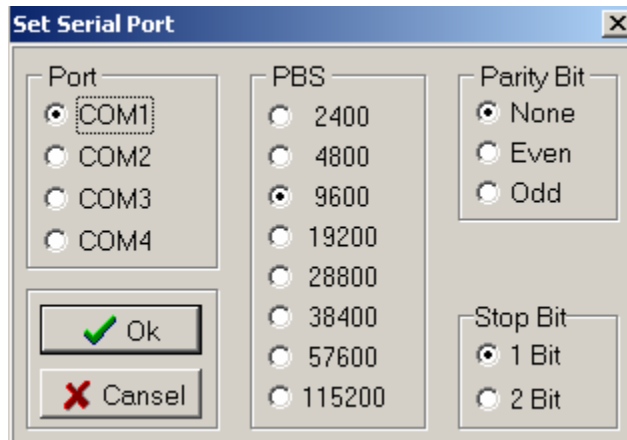

Figure 7: Set Serial Port Options For WinComm
2. In WinComm, go to Option Set Serial Port, Set them as shown in Figure 7. (It is highly recommended to review some of the serial communications basics)